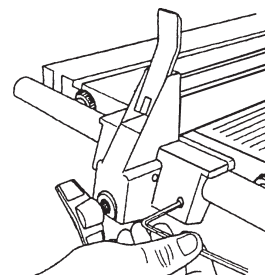

Figure 74
2. Use a 5/32" Allen Wrench to back out the Adjusting Set Screw from the Fence Base so it doesn't contact the infeed Table Tube, as shown in Figure 74.